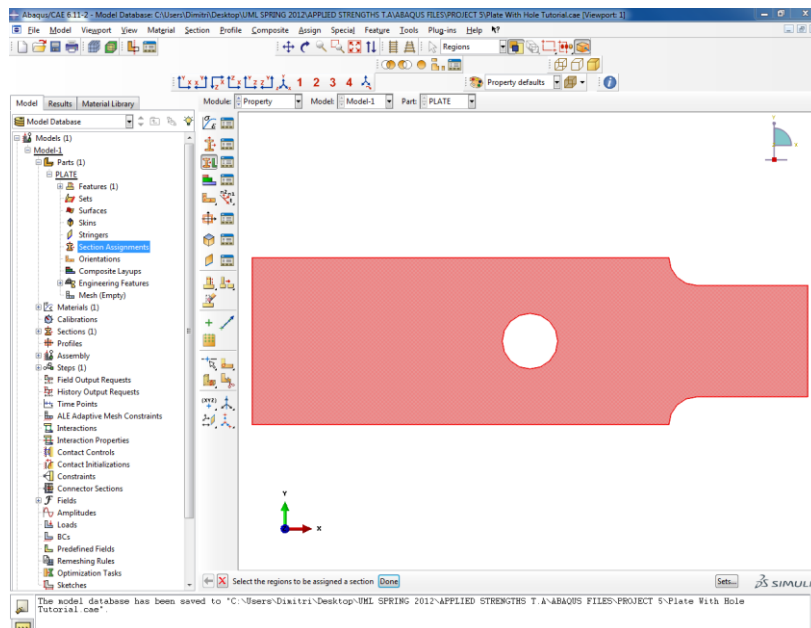

Figure 12. Selected Geometry
- After the model tree has been expanded, double click **Section Assignments**. Using the cursor, draw a box around the whole part. If the section has been chosen correctly the part will change color from grey to red (Figure 12).